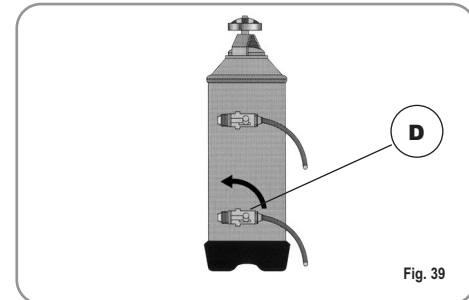

Fig. 39
- 3) Reposition lever D towards the left (Fig. 39).